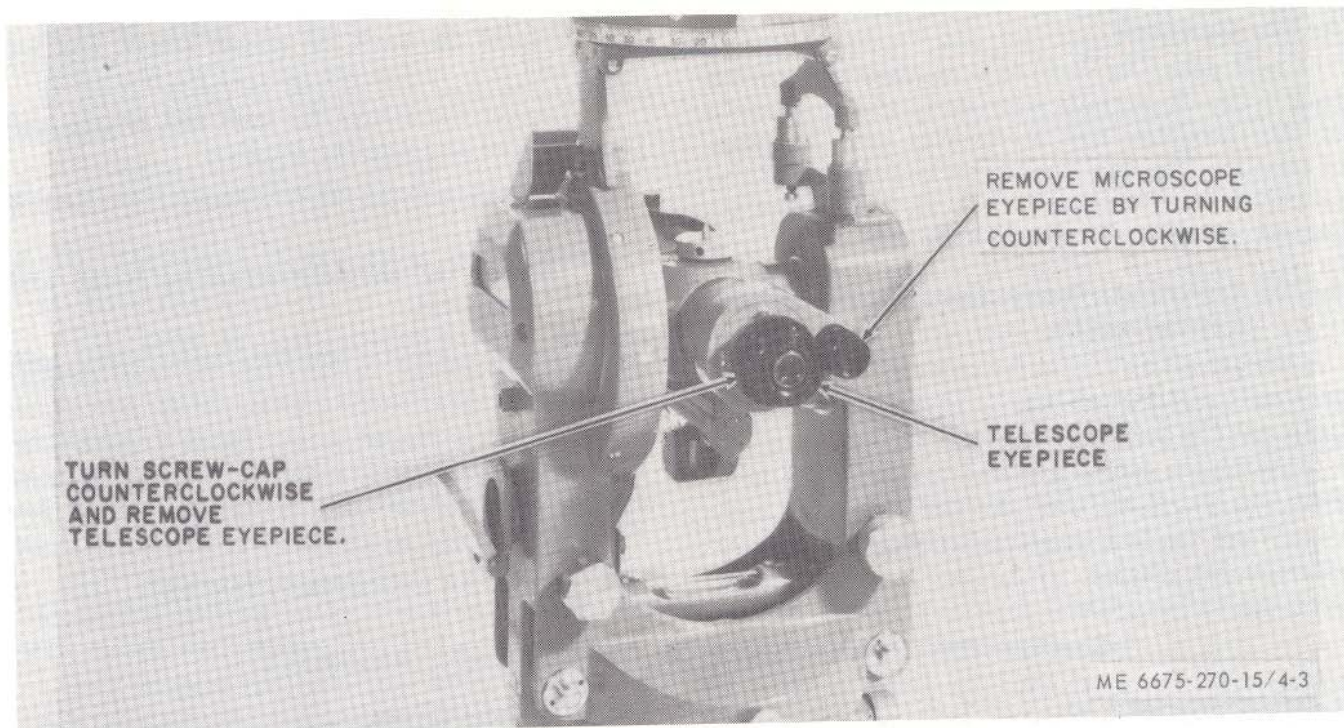

Figure 4-3. Telescope and microscope eyepieces, removal and installation.
a. Telescope and Microscope Eyepieces. Refer to figure 4-3 and remove the telescope and microscope eyepieces.
a. Telescope and Microscope Eyepieces. Refer to figure 4-3 and install the telescope and microscope eyepieces.